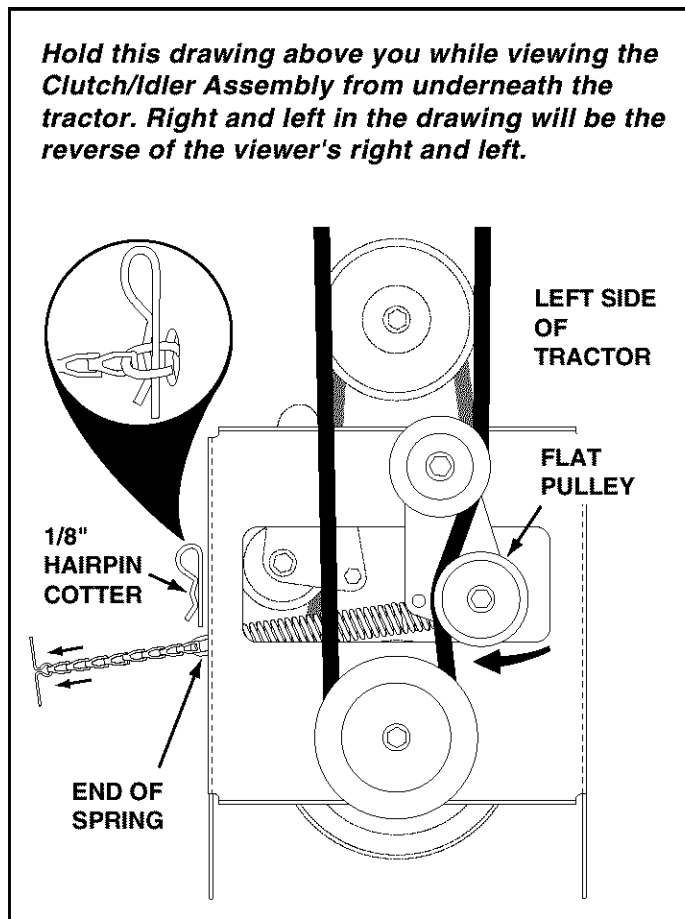

FIGURE 32 VIEWED FROM UNDERNEATH
- Pull the tensioning chain until the end of the spring is pulled through the hole in the side of the Clutch/Idler assembly. Install the 1/8" hairpin cotter through the end of the spring, securing it on the outside of the Clutch/Idler assembly. See figure 32.